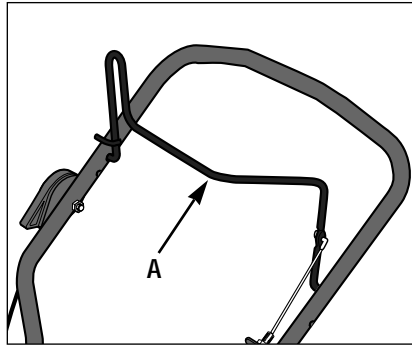

Figure 4-3: Control bail disengaged.
1. The Trimmer Head Control Bail (A, Figure 4-3) is used to start and stop trimmer head motion.
2. Leave the control bail in the disengaged (released) position when starting the engine to prevent the trimmer head from turning when the engine starts. See Figure 4-3.
4. Release (disengage) the Trimmer Head Control Bail (A, Figure 4-3).